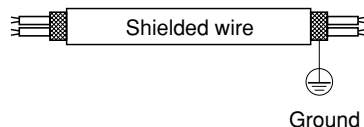

Fig. 6-3
- Use shielded wires for remote control wiring and ground the shield on both sides. (Fig. 6-3) Otherwise misoperation due to noise may occur.